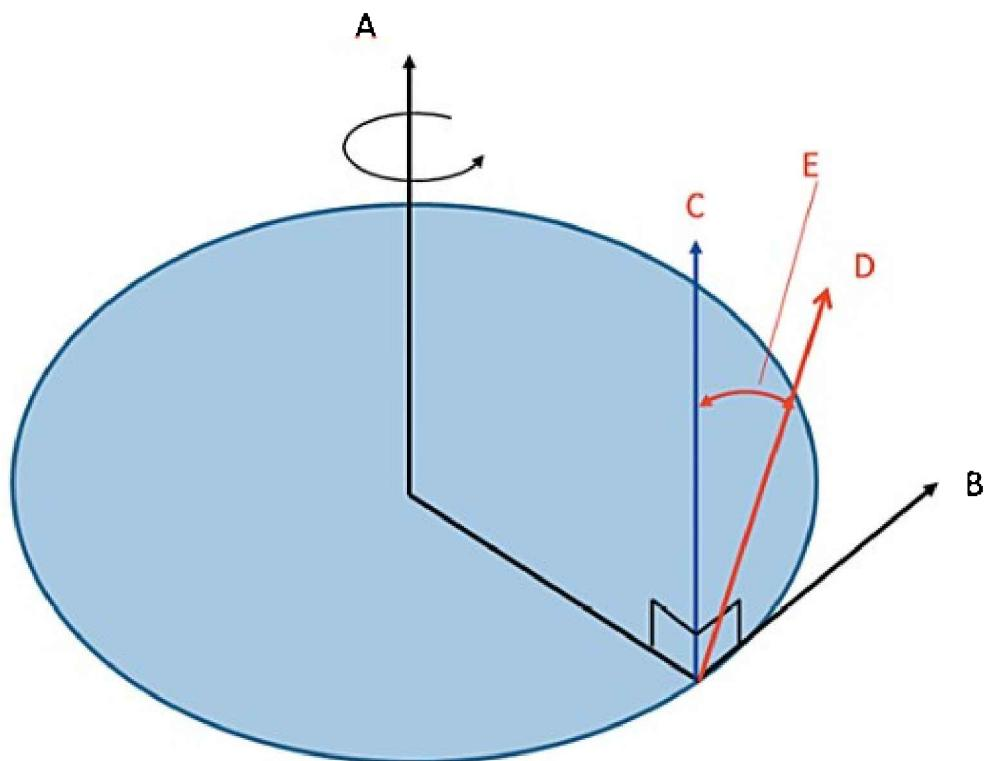

Figure 6.10. Flow swirl parameters at inlet
You can use the *Fixed Angle* option to specify the deflection angle (Figure 6.10, D) of the resultant vector (E) from the normal (C) in the plane formed